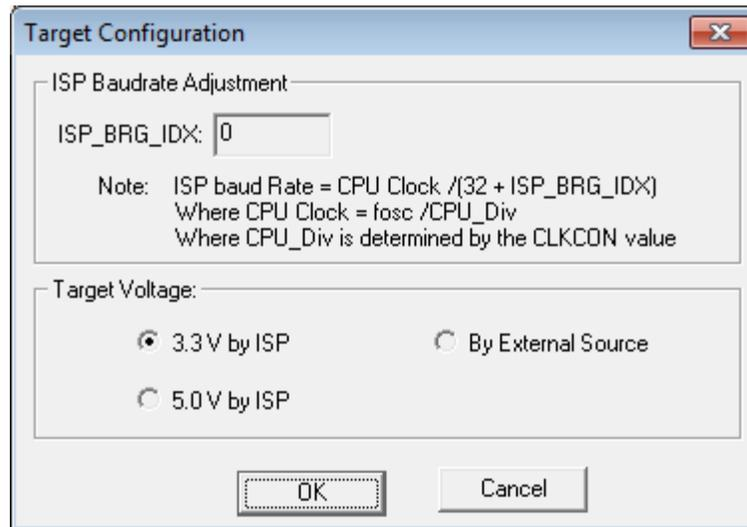

Figure 10. The Target Configuration Dialog
- From the Target Configuration dialog, enter “0” on **ISP_DBG_IDX** and select the **3.3V by ISP** button and Click **OK**. See Figure 10.